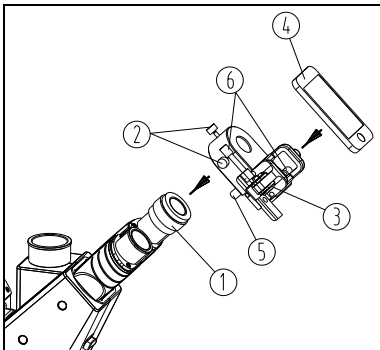

Fig. 39
(1) Loosen the three lock screws ② of the mobile phone connector ③, and insert the mobile phone connector ③ onto the eyepiece ①, as the direction shown in Fig. 39, and screw down the lock screw ②. (See Fig. 39)
(2) Align the camera of mobile phone ④ with the hole of the mobile phone connector ③, and insert into the the mobile phone connector ③.
(3) Observe whether the image of mobile phone ④ is clear and in center. If the image is unclear, adjust the up-down adjustment screw ⑤, if the image is not in center, adjust the vertically-horizontally adjustment screw ⑥, until the image is clear and in center.